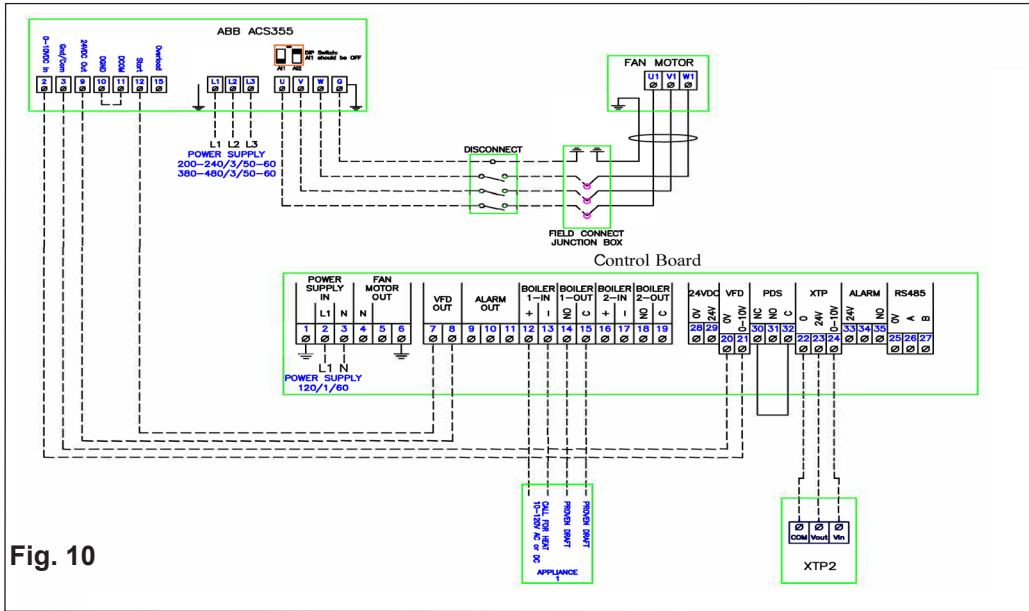

Fig. 10
- ▶ If using a 3-phase fan and VFD, connect the VFD to terminals 20 and 21 as shown in Fig. 10 and 11. **DO NOT** connect the fan directly to the EBC24 control.
To connect the 3-phase fan and variable frequency drive (VFD), connect the VFD to terminals 20 and 21 of the EBC24. **DO NOT** connect the fan directly to the control. Wire the ABB ACS355 series variable frequency drive according to fig. 10.